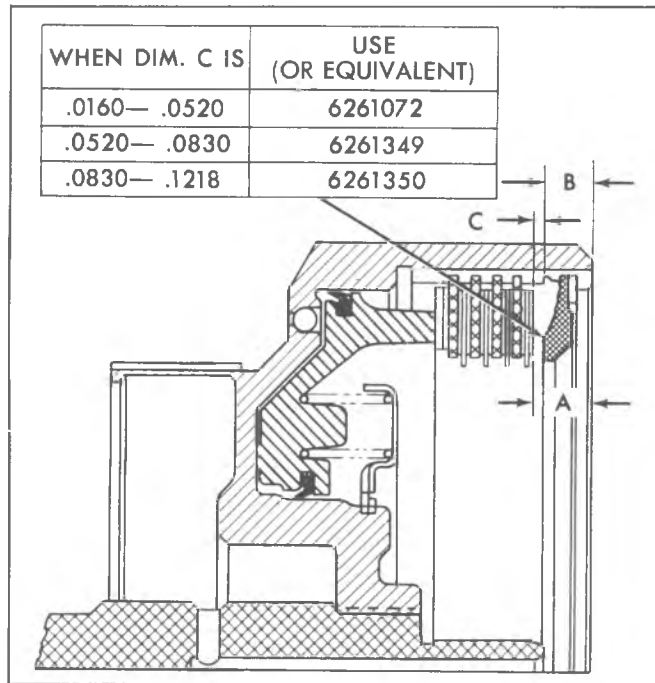

Fig. 7A-88B--Determining Selective Fit for Forward Clutch Pressure Plate
3. Install twenty-one (21) clutch return coil springs.
4. Install spring retainer. Compress spring retainer and install retaining ring using tool J-23327-1 as shown on Figure 7A-84B.